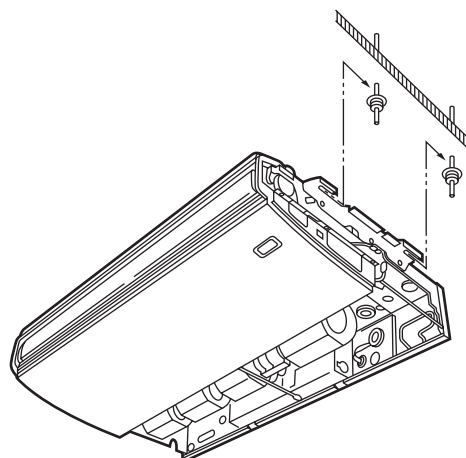

Fig. 1-59
- Lift the indoor unit with a lifting machine to the ceiling surface, and place it on the washers through the notches, to fix it in place. (Fig. 1-59)